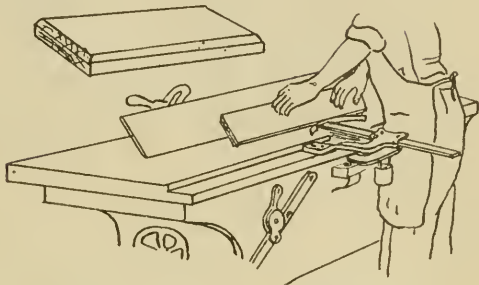

FIG 8—CUTTING A CHAMFER
12. Chamfering-- The jointer may be used for chamfering as illustrated in Fig. 8, by tilting the fence so as to cut the desired angle. Remember that the rule learned in hand planing, to plane the end grain first still holds good.
3. Use a wooden mitten or specially provided stick (Fig. 8) of some kind in pushing flat and narrow pieces over the revolving cylinder.